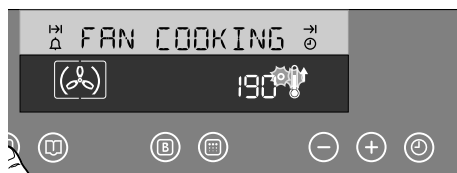

Fig. 19
5. If you touch the "Cooking Function" control , the temperature display reverts to the selected temperature and symbol "●" flashes for 5 seconds (Fig. 19). During this interval, you can adjust the temperature setting by touching control "—" or "+".